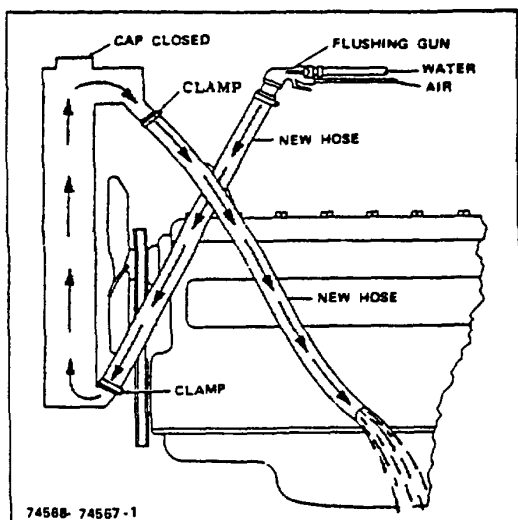

Figure 3-3. Reverse Flushing Radiator
1. Radiator Reverse Flush Proceed as follows (see Figure 3-3) :